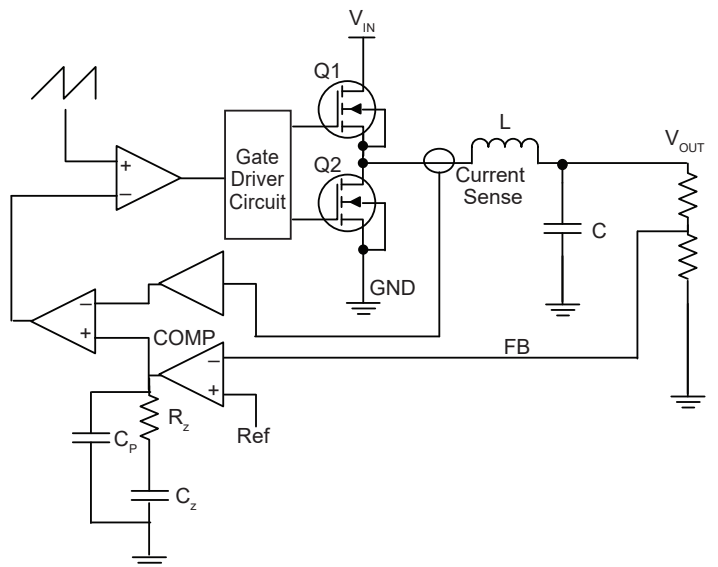

Figure 6: Typical Block Diagram of Average-Current Control Mode
- The compensation voltage (COMP in Figure 6) reduces to less than 0.5 V
- The compensation voltage (COMP in Figure 6) exceeds 0.55 V for at least 200 ns